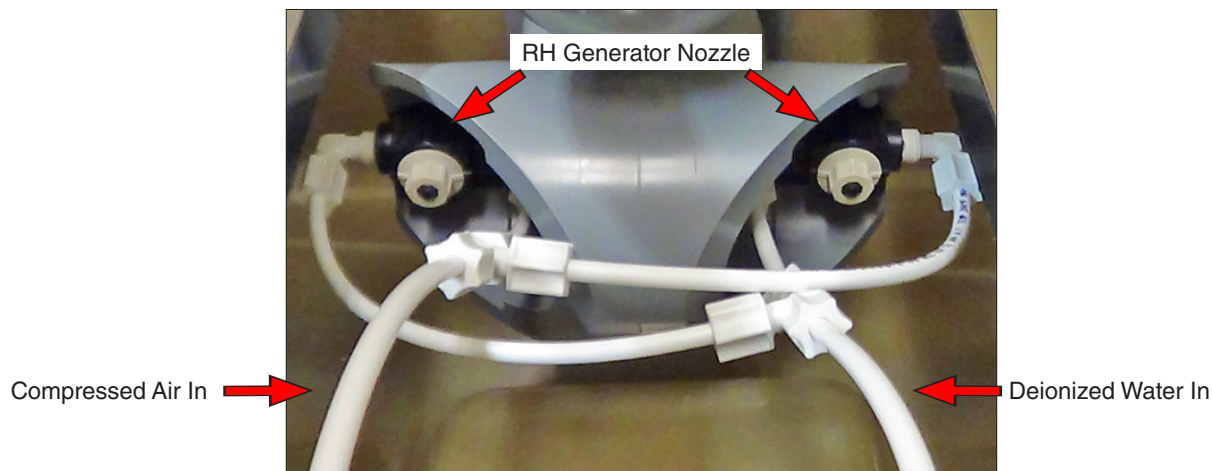

Figure 8.14c: RH generator assembly.
- Deionized water enters on the right side of the RH generator and compressed air enters on the left side (Figure 8.14c).